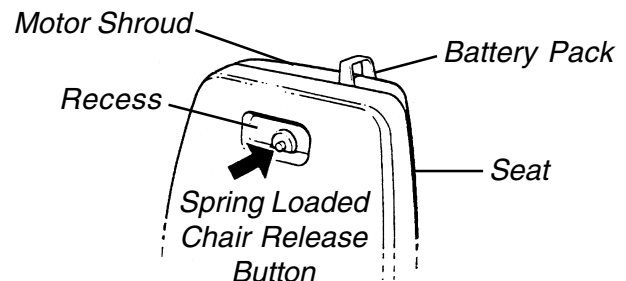

FIGURE 3 - RELEASING THE SEAT
3. To release the seat, press and hold the spring loaded chair release button (FIGURE 3).
To prevent pinching injury between seat back and motor shroud when removing/installing the seat, DO NOT grasp seat anywhere other than at the recess at the top (FIGURE 3), the opening at the bottom of the seat or the lip where the battery pack was.